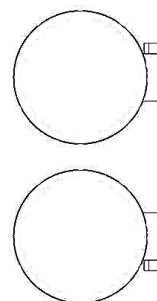

FIGURE 4
10. Unscrew all supplied hose clamps and feed the tail end of the clamp through the clips on the inside of the heatshields; the larger clamps go to the rear of the heatshields where they will rest on the muffler bodies, smaller ones to the front for the headpipes. The screw end of the hose clamp should be accessible for tightening but not visible when heatshields are mounted to the pipes, see Figure 4.